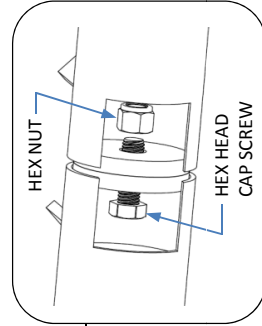

Fig. 3 – Coupling connection
2. Install hex head bolt through holes of both supports. Secure with hex nut. See Fig. 3.